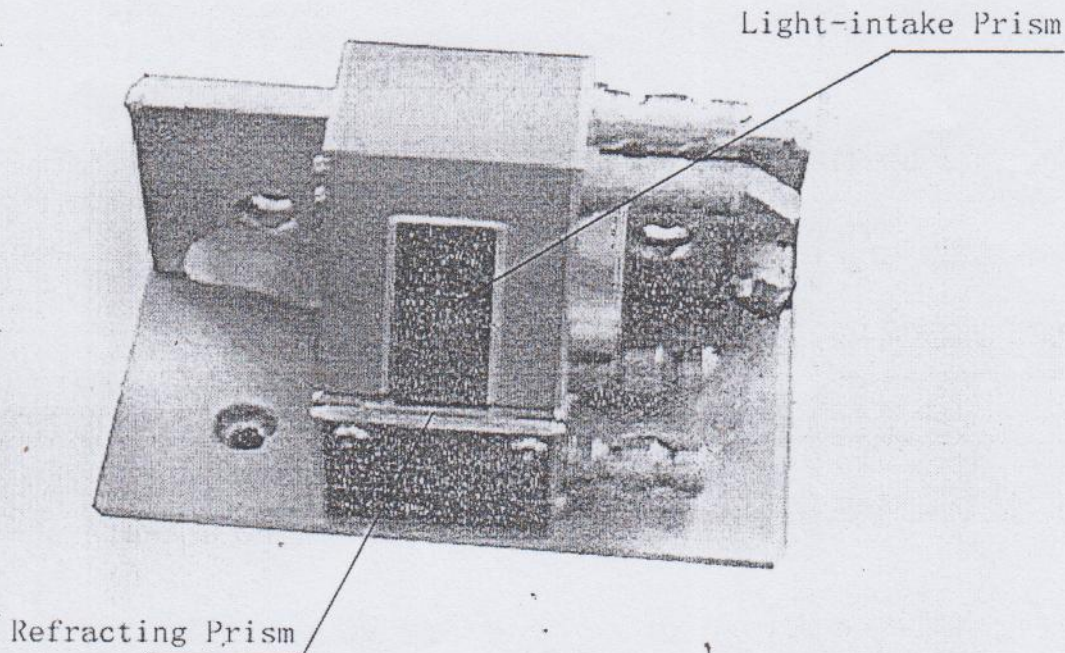

Fig.1
(1) When the power switch“POWER”(4) is pressed , the illuminating lamp in the light-gathering illunminating unit (10) lights up; and at the same time, the display window (3)displays“00000” a few seconds later.
(2) Oper the refracting prisms unit (11), and remove the mirror-cleaning paper, which is put in between the two prisms when the instrument is idle to prevent the hard particles possibly remaining on the prisms from damaging the working surfaces of the prisms. Only single-layer mirror-cleaning paper is needed.
(3) Check the surfaces of the upper and lower prisms, and carefully clean their surfaces with water or alcohol. After a sample is measured, the surfaces of the two prisms should also be cleaned carefully, because a litte of the original sample remaining on the prisms will affct the measuring accuracy of the next sample.
(4) Put the sample to be measured on the working surface of the lower refracting prism. If the sample to be measured is a kind of liquid, a clean dropper may be used to suck in one or two drops liquid sample and then put drops onto the working surface of the refracting prism. After that, the cup of the upper light-intake prism should be put on.. If the sample to be measured is a kind of solid substance, the solid sample must have a smooth polished surface which should be wiped clean before performing the measurement. Put one or two drops of a transparent liquid(such as naphthalene bromide). The refractive index of which is higher than that of the solid sample, onto the working surface of the solid sample onto the working surface of the refracting prism and let them hacc a good contact. (See Fig.1).